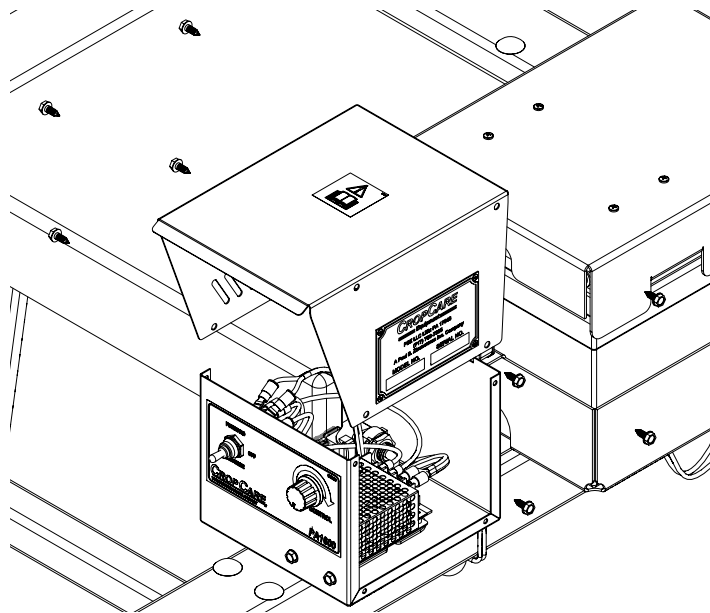

Figure 3: Removing the lid from the speed control/ switch box.
- Remove the cover from the speed controller and switch box. (Figure 3)